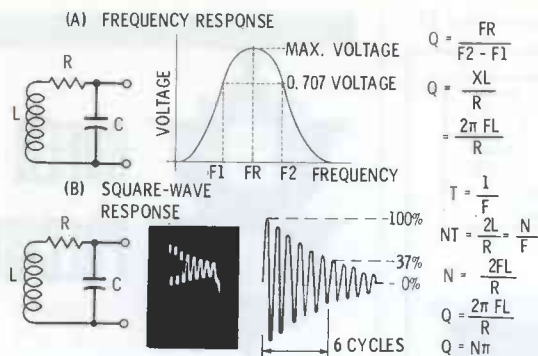

Fig. 6. Circuit Q can be measured with either method.
In addition, square-wave tests can be used to determine Q (Fig. 6B). The amplitude of the ringing waveform decreases in a manner identical to the decay of a simple RC or RL circuit. Now, however, $1/a$ is substituted for RC or L/R; a , the exponential damping function, is equal to $R/2L$. The ringing-waveform envelope will decrease from 100% to 37% of peak amplitude in $1/a$, or $2L/R$, sec. If N is the number of cycles between the 100% and 37% points and T equals the time interval for each cycle, then $NT = 2L/R$. Since T is the reciprocal of the waveform frequency, then $N/f = 2L/R$, and $N = 2fL/R$. Since $Q = 2\pi fL/R$, multiplying N by π gives $Q: \pi N = 2\pi fL/R = Q$. Q of a circuit at its resonant frequency can be determined by the number of cycles (N) between the points at 100% and 37% of peak amplitude and multiplying the number by π . In Fig. 6, for example, $Q = 6\pi$ or approximately 18.85. Note, however, that this method gives the Q value only at resonance.